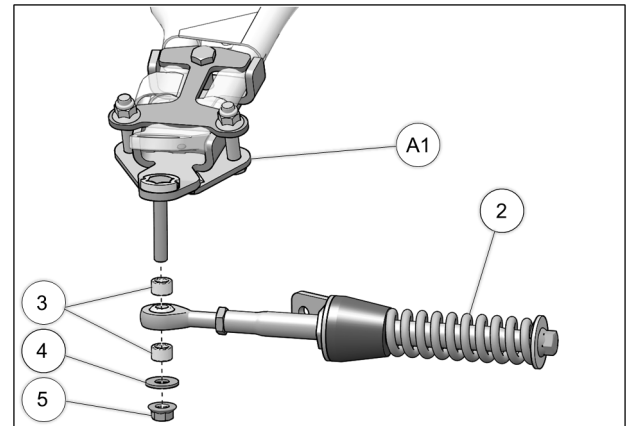

Fig. 18
9. Attach the stabilizing rod (**2**) to the anchor bracket (**A1**), using the two spacers (**3**), washer (**4**), and nut (**5**). Torque to 70 N•m [52 lb•ft]. Refer to Fig. 18